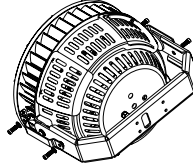

Fig. 4
2. Lock the angle adjustment screws as shown (Fig 4).